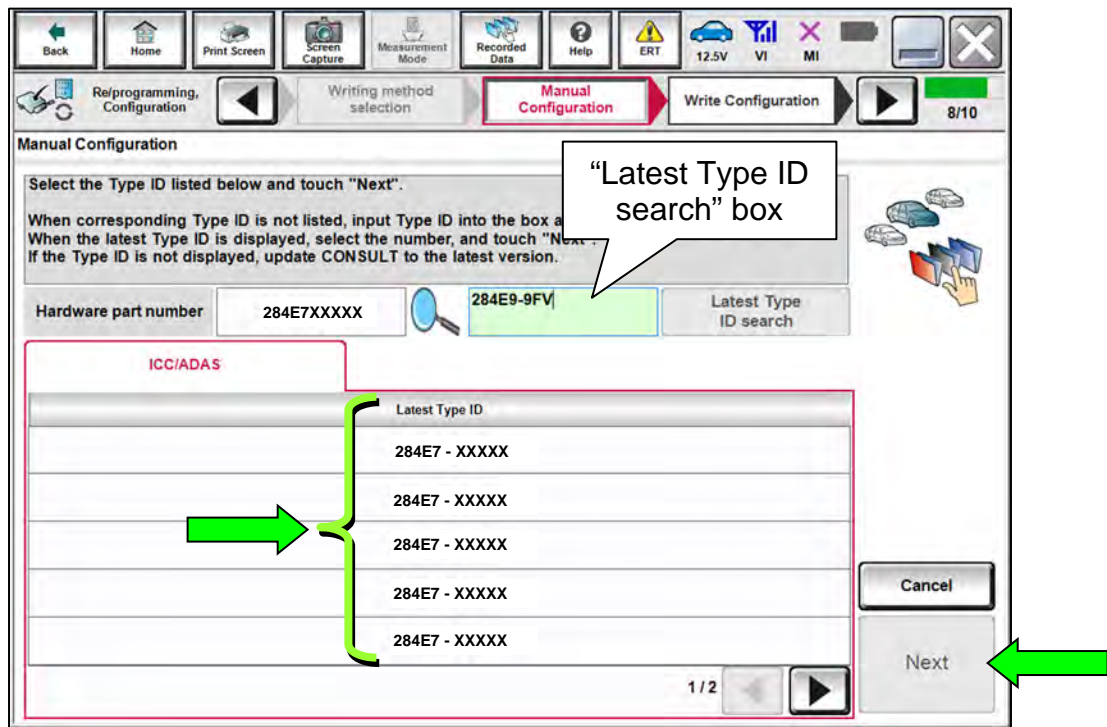

Figure 30
50. Either enter the last two (2) characters of the **NEW (Latest Type ID)** into the **Latest Type ID search** box (Figure 30) or manually select the correct **Latest Type ID** that was found in **Table B** (page 22).